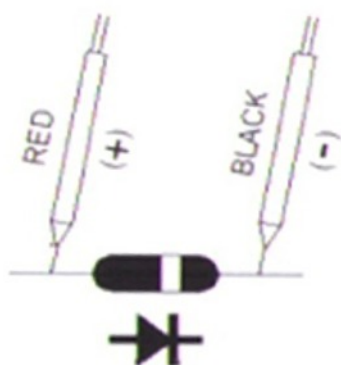

Fig. 2
- 4) a. When connected with polarity as shown in Fig. 2, a forward current flow is established and the approx. Diode Forward Voltage (VF) value in volt will appears on the display reading. If the diode under test is defective, " .000 " or near " .000 " value (short circuit) or " 1 " (open circuit) will be displayed.